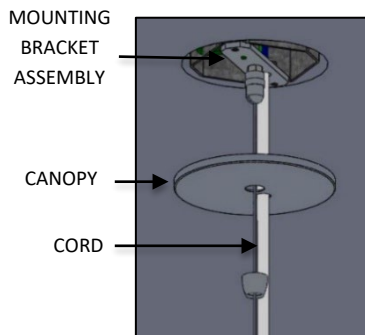
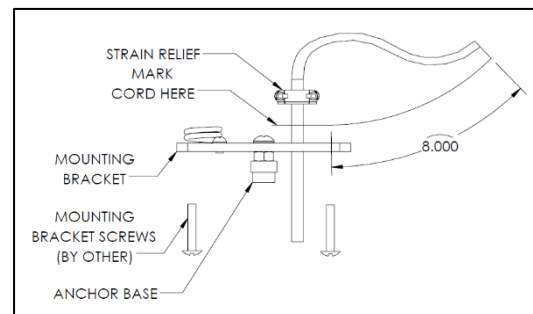

FIG. 30 -CORD INSTALLATION
FIG. 31 – CORD MARKING
7. Dis-assemble the CANOPY by loosening the ceiling Coupler, and Insert CORD through CANOPY and MOUNTING BRACKET as shown below in FIG. 30. Mark cord with marker above DRIVER MOUNTING BRACKET as shown below in FIG. 31. Trim off excess CORD leaving minimum of 8.00" past the top of the DRIVER MOUNTING BRACKET all thread.